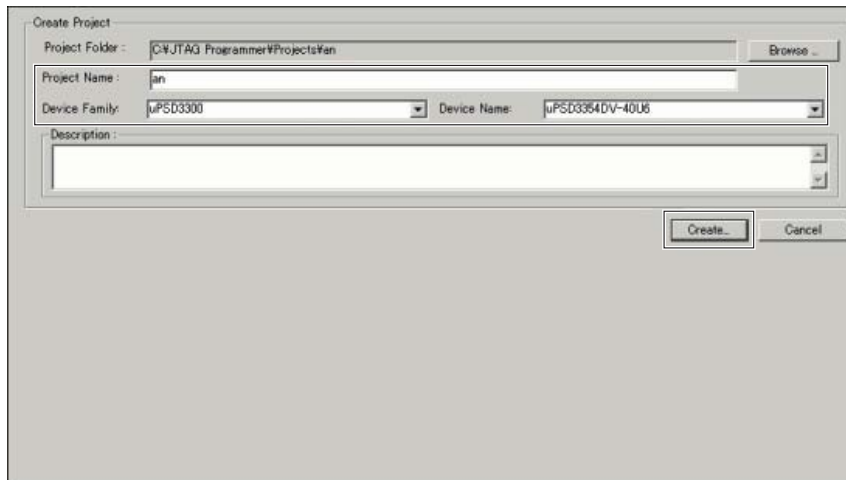

Fig. 2 Create Project screen
- 3) Select a new project from the project menu. The following “Create Project” screen appears. (Fig. 2)